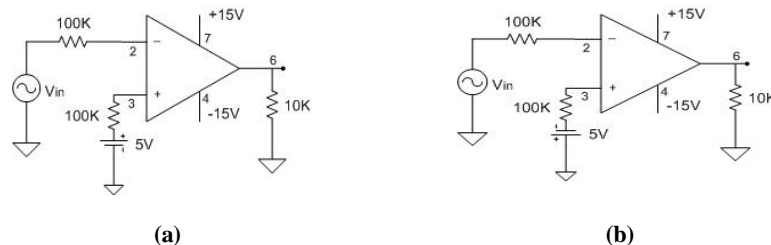
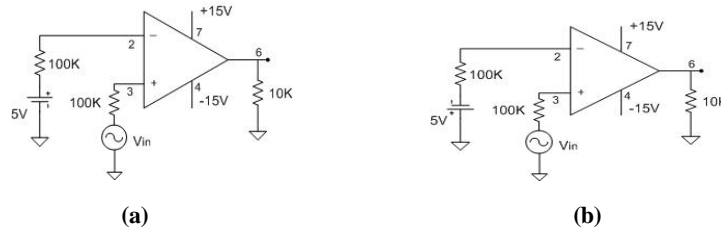

Fig 4 (a) Inverting positive level detector and **(b)** Inverting positive level detector
Fig 6 (a) Non-inverting positive level and (b) Non-inverting negative level
A **positive level detector** is a comparator with the reference level set at some constant positive voltage. It is used for detecting the positive level crossing of ac signals. In a non-inverting positive level detector when the input voltage is positive, the output voltage is a positive value, when the input voltage is negative, the output voltage is a negative value. In the inverting zero crossing detector when the input voltage is positive, the output voltage is a negative value and when the input voltage is negative, the output voltage is a positive value which are shown in **Fig. 4(a)** and **Fig. 4(b)**.
A **negative level detector** is a comparator with the reference level set at some constant negative voltage. It is used for detecting the negative level crossing of AC signals. In a non-inverting negative level detector when the input voltage is positive, the output voltage is a positive value, when the input voltage is negative, the output voltage is a negative value. In the inverting negative level detector when the input voltage is positive, the output voltage is a negative value and when the input voltage is negative, the output voltage is a positive value. The wave shapes are shown in Fig. 6(a) and Fig. 6(b).
5. Repeat steps 1 to 4 for circuits shown in Fig. 4 and Fig. 6 above in the theory section.